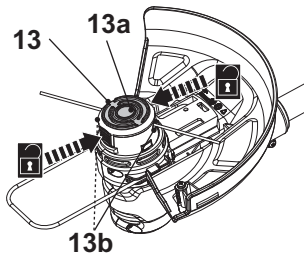

Fig. 23
2. Hold the trimmer head (13) steady with one hand. Press the release latches (13b) on both sides, then lift the cover (13a) and remove it (Fig. 23).